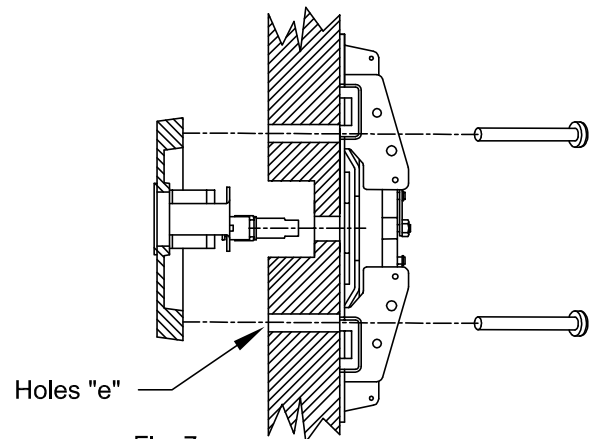

Fig. 7
4. (Fig. 7) With the key out of the cylinder, align the tailpiece extension into the backplate's trim cam on the inside door face. Using "e" holes, fasten the trim to the backplate with 1/4-20 machine screws. Three screw lengths are provided for varying door thicknesses.